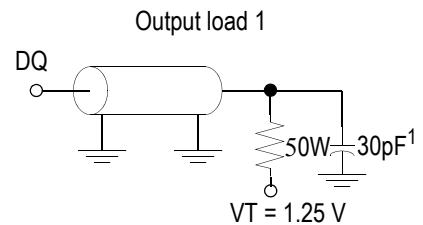

FIG. 1
Output load	Fig. 1 &amp; 2
2. Test conditions as specified with output loading as shown in Fig. 1 unless otherwise noted.